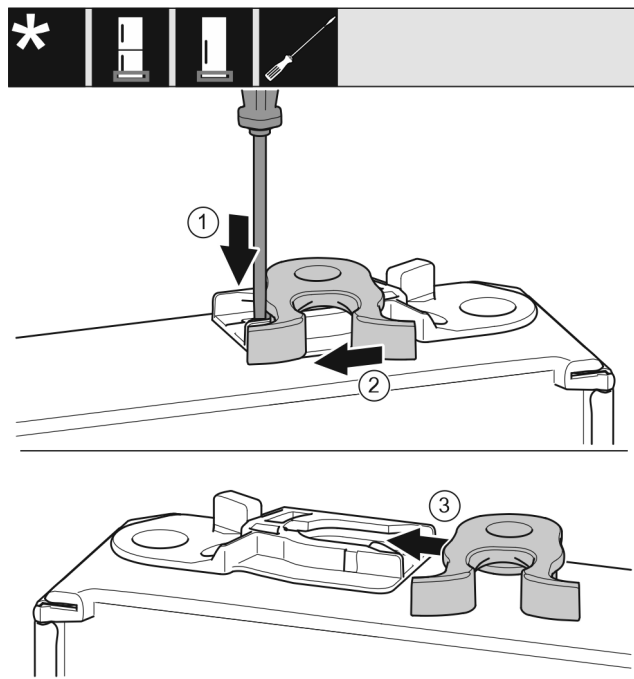

Fig. 20
- Use a slotted screwdriver to push the tab Fig. 20 (1) downward.
- Pull the closing hook Fig. 20 (2) out of the guide on the other side.
- Push the closing hook Fig. 20 (3) to the other side in the guide.